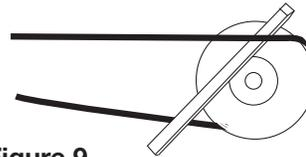

Figure 9
6. Always loosen tension enough to install belts without stretching, see Figure 9.